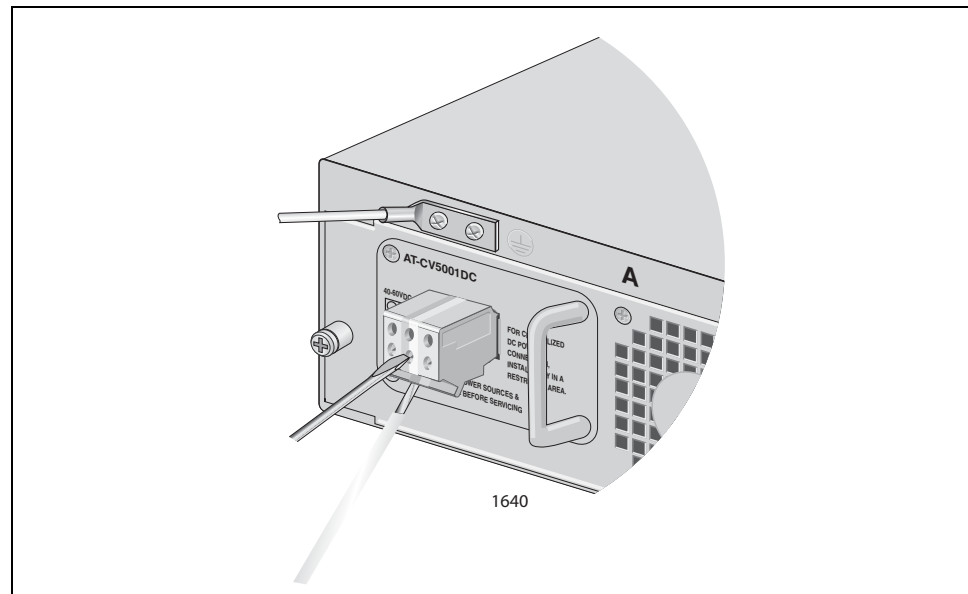

Figure 29. Inserting Wires into a DC Terminal Block
4. Insert the power supply ground wire into the middle connector of the DC terminal and tighten the connection with a flathead screwdriver, as shown in Figure 29.